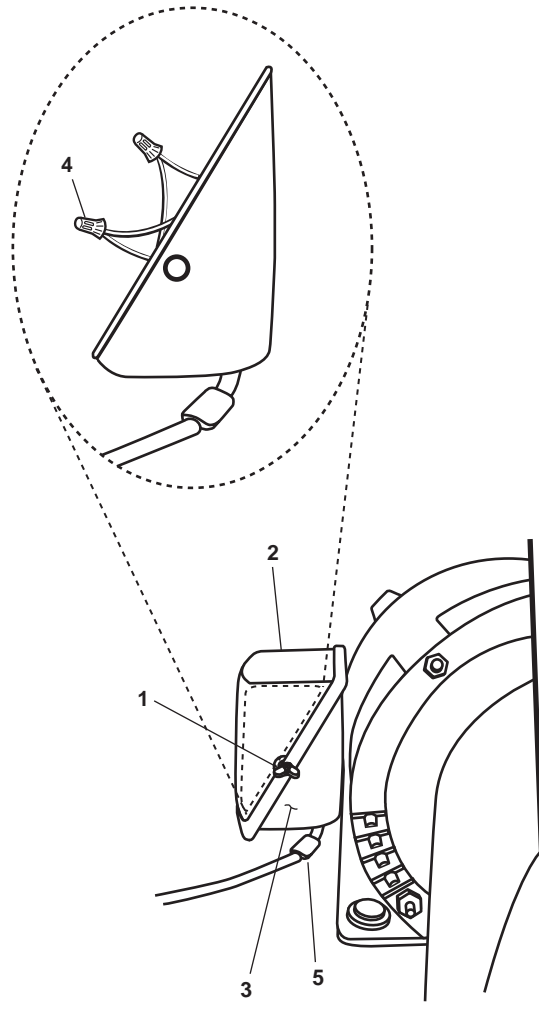

Figure 1. Typical Junction Box
1. Remove the two screws (figure 1, item 1), and remove the cover (figure 1, item 2) from the junction box (figure 1, item 3).
2. Use a multimeter to check for voltage at the wire terminals (figure 1, item 4). If voltage is present, ensure that the proper circuit breakers are set to OFF, locked out, and tagged out (FM 55-502). If no voltage is present, continue with the procedure.
3. Label and remove the wiring (figure 1, item 5) from the junction box (figure 1, item 3).